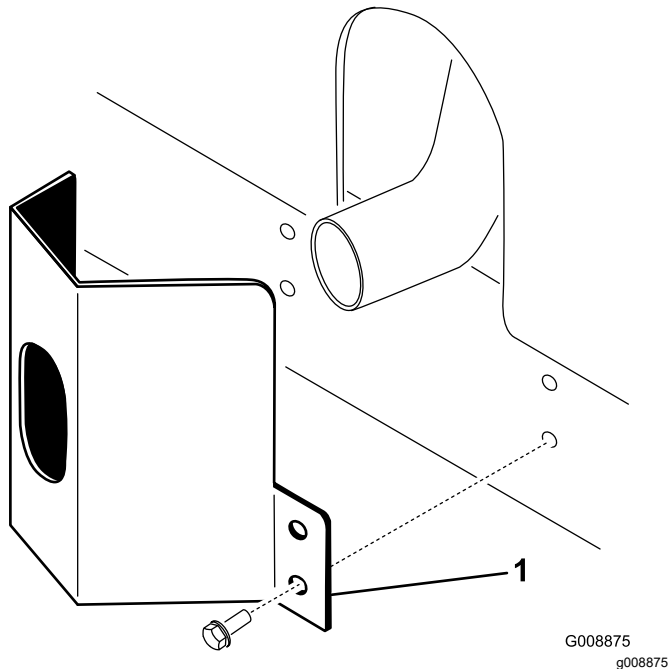

Figure 9
1. Position the exhaust guard around the muffler while aligning the mounting holes with the holes in the frame (Figure 9).
2. Secure the exhaust guard to the frame with 4 self-tapping screws (Figure 9).